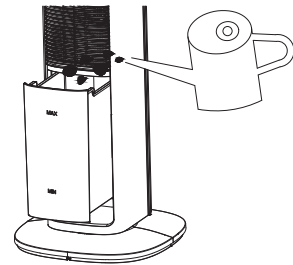

Figure 2
- Fill the tank to the MAX level. (Figure 2).